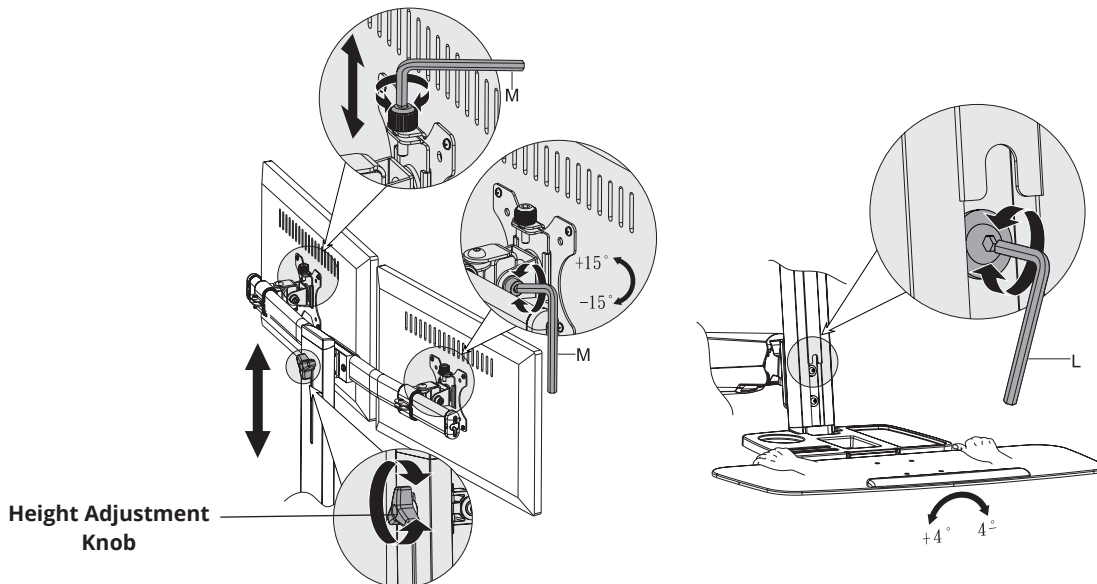

Figure 14
2. Adjust tightness of the Monitor Tilt and Swivel using Allen Key (M). Adjust monitor height using the Height Adjustment Knob, see Figure 14.